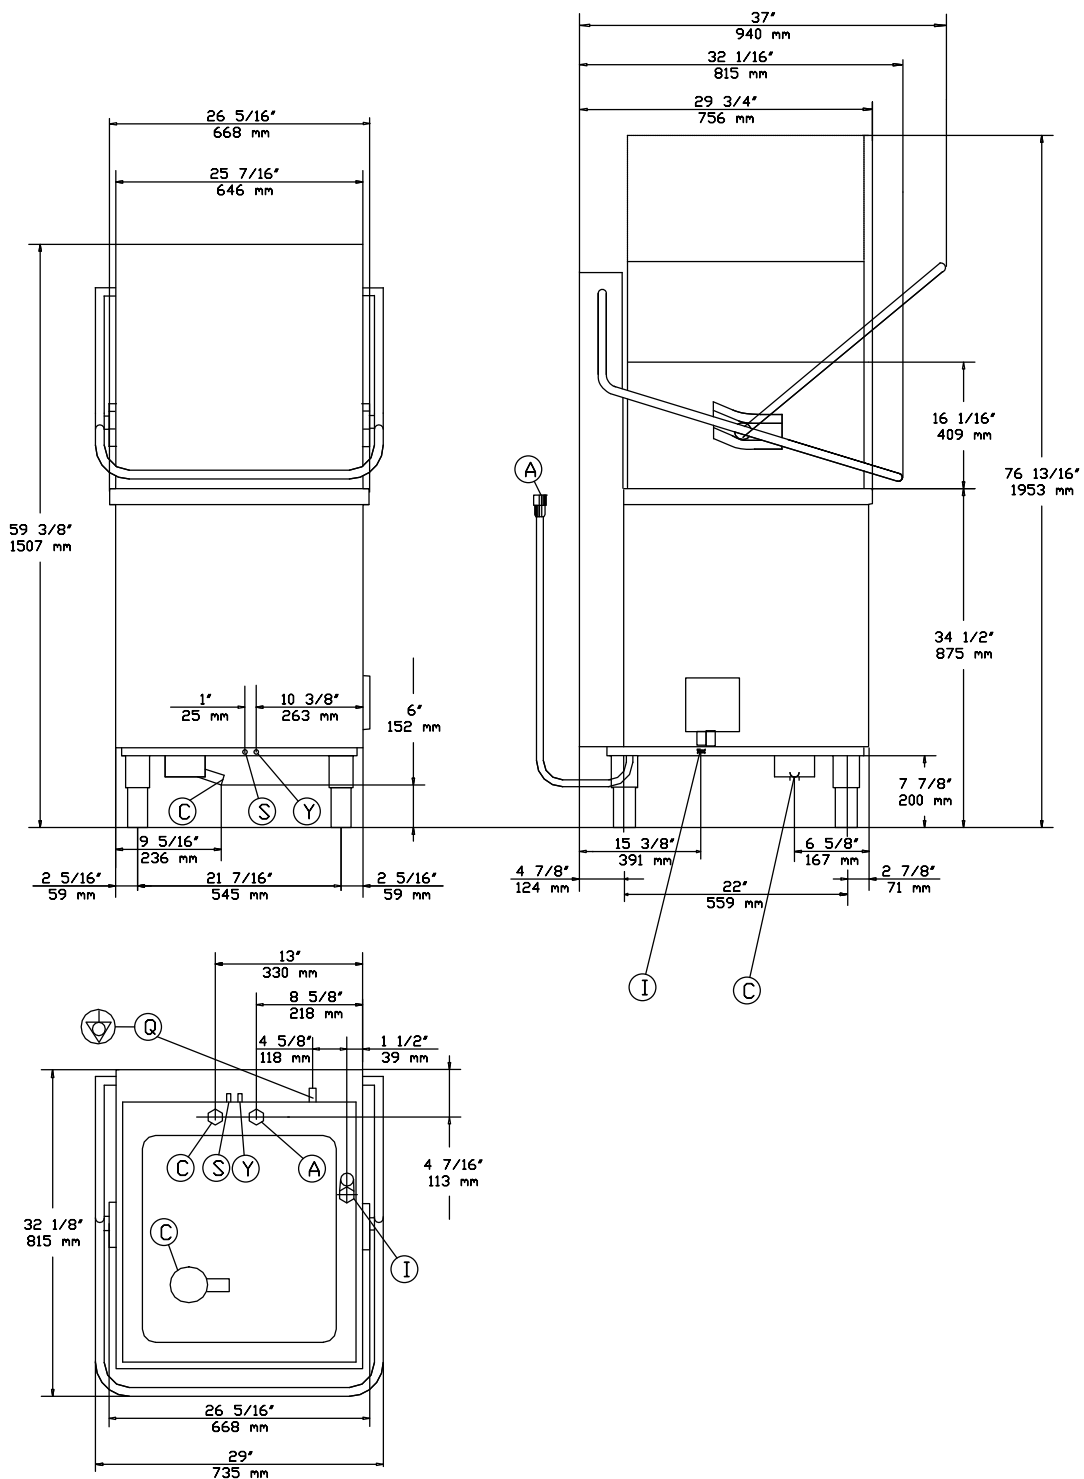
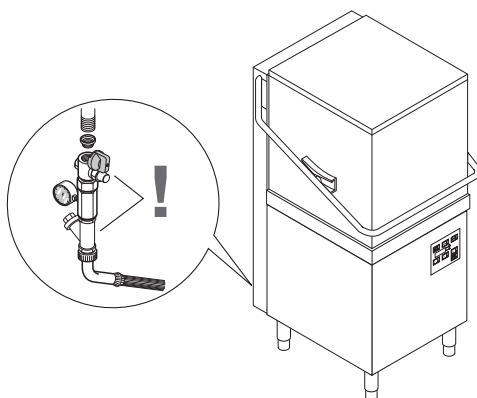

Figure 4
Figure 6
Legend Figure 4
- Connect the appliance water supply pipe "A" (Figure 4) (keeping with local plumbing codes) to the incoming water supply. Install a shutoff valve, Y-Strainer and a pressure gauge between the appliance and the incoming water supply of the unit (Figure 6).
connect the waste outlet pipe "C" (Figure 4) to the main drain pipe, using a trap, or place the outlet pipe over an "S" trap set into the floor.
- The appliance requires a ground connection to the unit ground screw located at the rear of the unit marked "Q" (Figure 4) in the manual and marked with the symbol "⚡" on the unit. The ground wire must